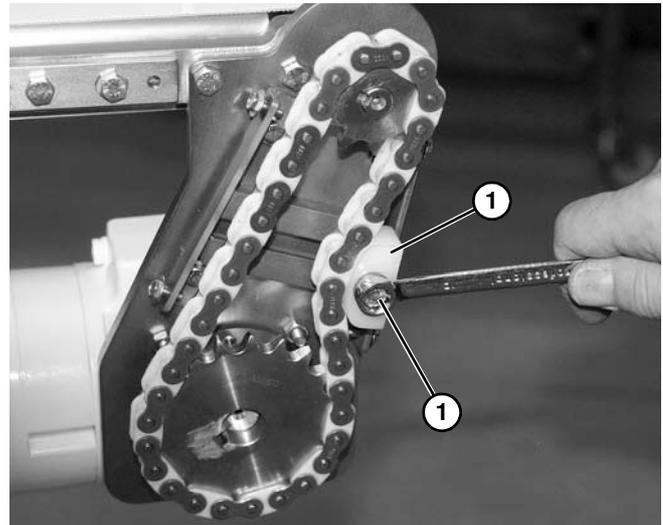

**Figure 42**
- Install screw and washer (**Figure 42, item 1**), timing chain tensioner (**Figure 42, item 2**), and spacer (**Figure 42, item 3**) onto drive mounting bracket.